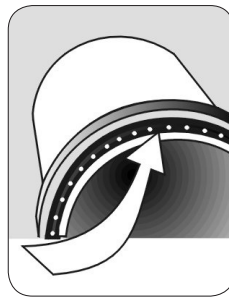

FIGURE 10
- Reassemble the filter cover and tighten the clamp (Figure 10, 11).